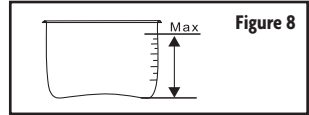

Figure 8
3. Take the stainless steel inner pot out of the base and fill with the food and liquid you want to cook. The total amount of food and liquid should **NEVER** exceed the maximum level marked on the inner pot. It is recommended to not fill the inner pot over $\frac{2}{3}$ full. Some foods that expand when they are cooked like rice, beans, or dried vegetables, should not fill more than $\frac{1}{2}$ of the inner pot. Over filling may cause the vent pipes to clog which develops excess pressure that could lead to spillage, damaging the unit, or personal injury. (Refer to Figure 8.)